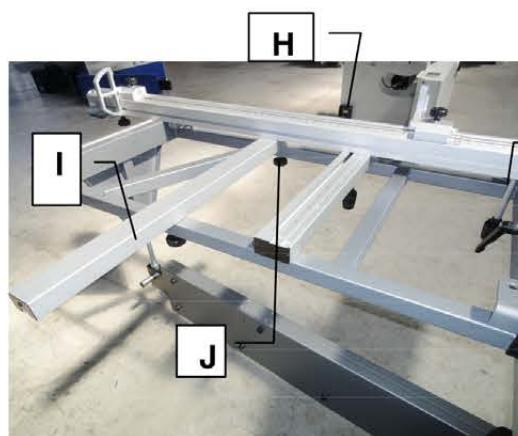

Figure 3-4.2
- Fit square pipe **I** (Fig. 3-4.2) to **R** (Fig. 3-4.1a) of crosscut frame. And tighten knob **J**(Fig. 3-4.1b & 3-4.2) for fixing on crosscut frame.
4. Fit crosscut fence in the groove **H** (Fig. 3-4.2) and holes on crosscut frame (as Fig 3-4.2b)